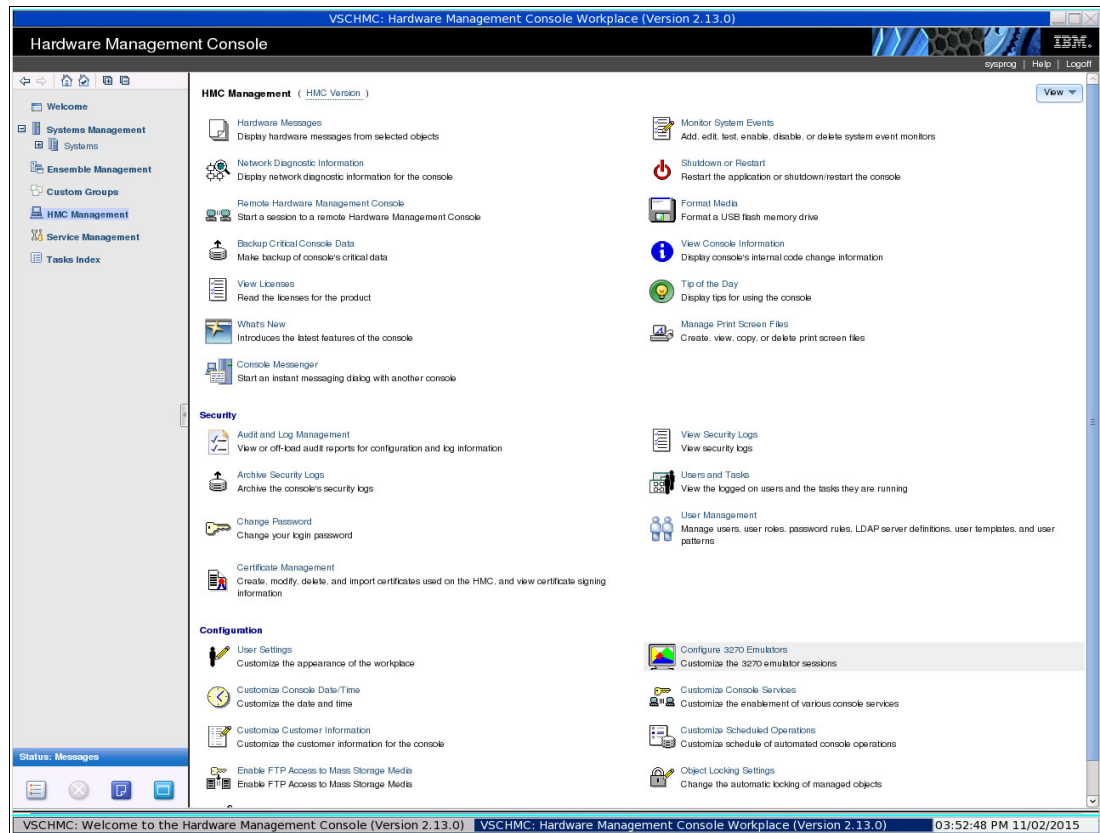

Figure 7-26 HMC configuration for 3270 Emulation
2. We select **HMC management** → **Configure 3270 Emulation**. The Emulation Configuration panel opens, as shown in Figure 7-26.